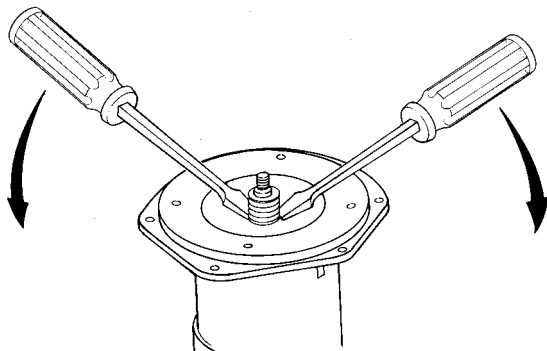

Figure 22 – Remove Seal Rotating Half
- Remove rotating half of seal by placing two screwdrivers under seal ring and **carefully** prying up (Figure 22).